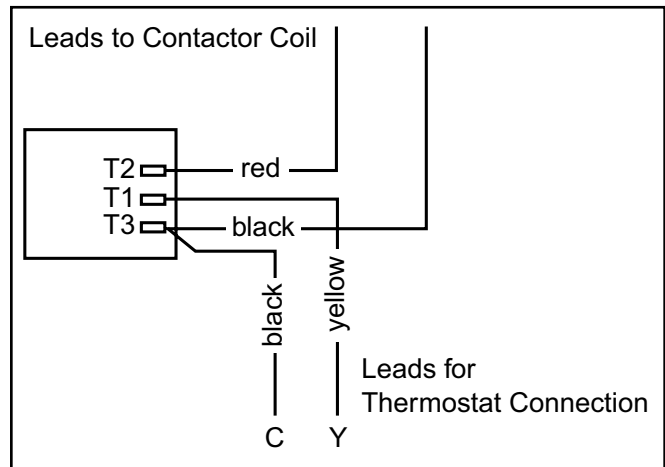

Figure 1. Wiring Schematic for Remote Anti-Short-Cycle Timer
5. Using the template provided, drill three (3) 0.187 diameter holes for the (3) plastic stand-offs to snap into in the low voltage area above the low voltage divider. Locate the timer as close to the grommet in the low voltage divider as you can without causing any wire routing problems.
6. Using the wires provided, wire the timer as shown in Figure 1.